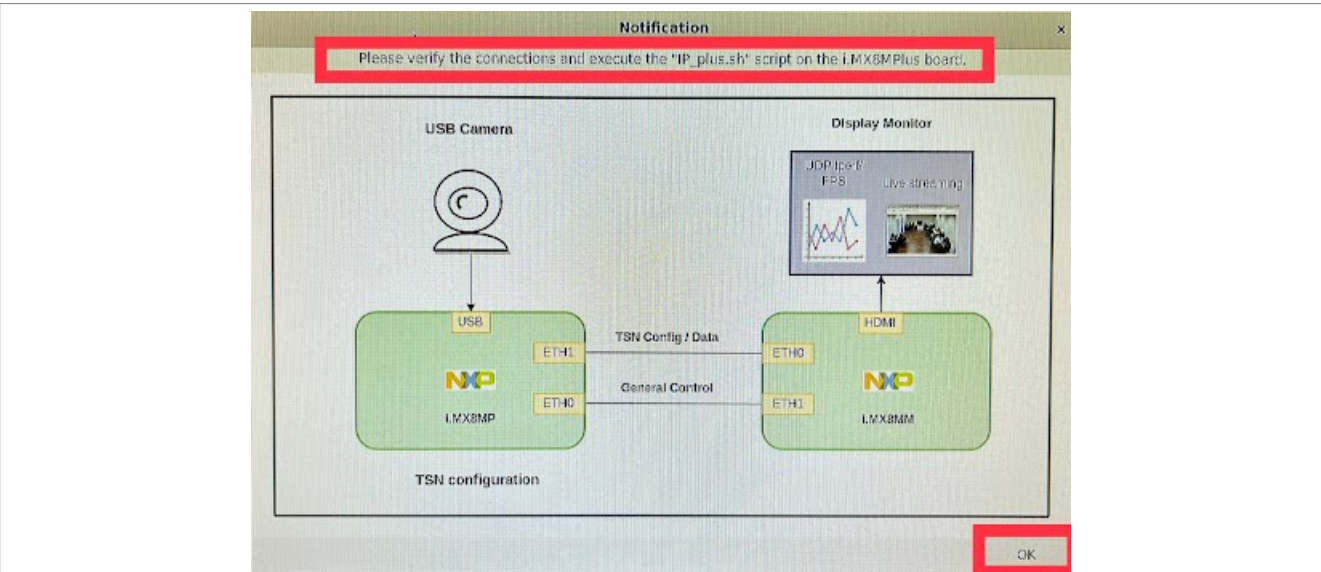

Figure 37. Pop-up window
- If the connections are not successful, a pop-up window shows up, as shown in Figure 37. After confirming the connections and system setup, click the **OK** button and relaunch the demo when a camera is connected.